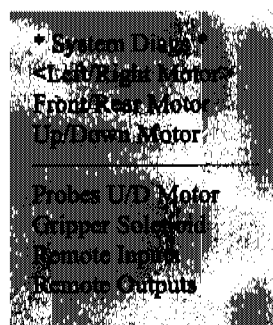

Figure 4.38. System Diagnostics menu
1. From the System Setup menu, select **Diagnostics** and press [Enter]. The System Diagnostics menu displays (Figure 4.38).